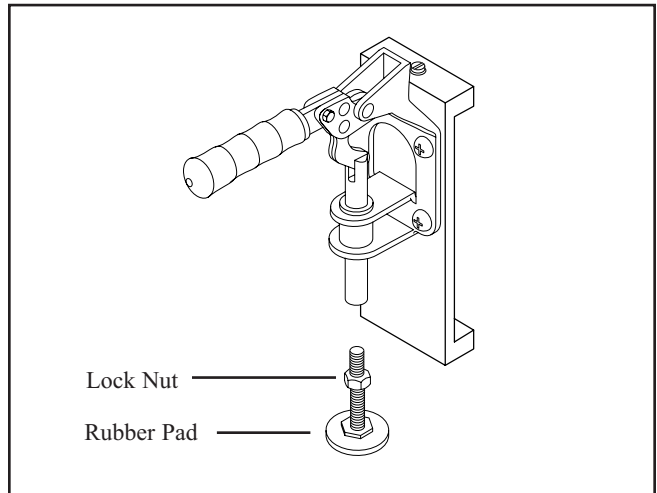

Figure 2. Threading the clamping pad into the toggle clamp.
2. Thread the carriage bolt into the toggle clamp. Figure 2.